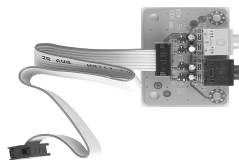

Figure 1-4 AC3 Surround/Center + Bass jack extension (Optional)
- AC3 Surround/Center + Bass jack extension. (Figure 1-4)